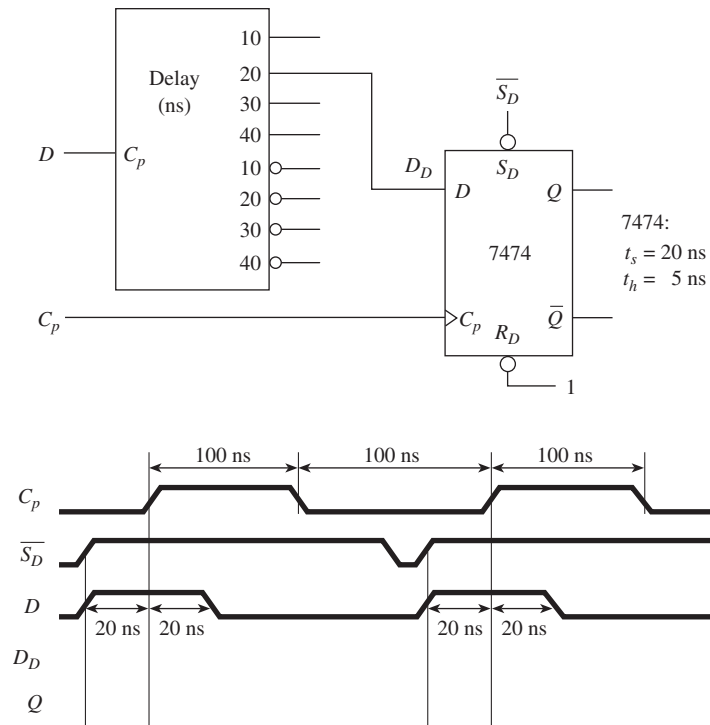

Figure P8
8. (a) Sketch the output at D_D and Q for the flip-flop circuit shown in Figure P8. (Ignore propagation delays in the 7474.) (b) Connect D_D to the 30-ns tap, and repeat part (a). See Figure P8.